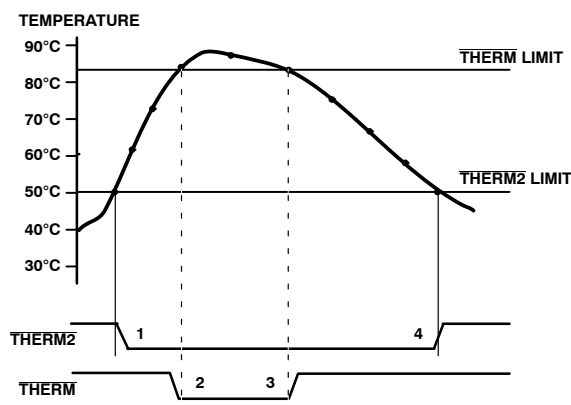

**Figure 20. Operation of the  $\overline{\text{ALERT}}$  and  $\overline{\text{THERM}}$  Interrupts**
Figure 20 shows how the  $\overline{\text{THERM}}$  and  $\overline{\text{ALERT}}$  outputs operate. A user may choose to use the  $\overline{\text{ALERT}}$  output as an  $\overline{\text{SMBALERT}}$  to signal to the host via the SMBus that the temperature has risen. The user could use the  $\overline{\text{THERM}}$  output to turn on a fan to cool the system, if the temperature continues to increase. This method would ensure there is a fail-safe mechanism to cool the system without the need for host intervention.
3. The  $\overline{\text{THERM}}$  output deasserts (goes high) when the temperature falls to  $\overline{\text{THERM}}$  limit minus hysteresis. The default hysteresis value of  $10^{\circ}\text{C}$  is shown in Figure 20.